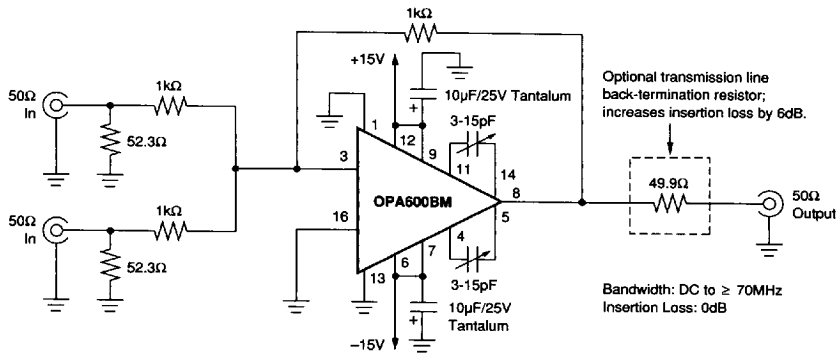
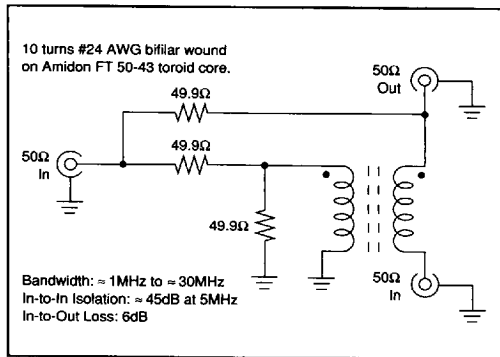

FIGURE 5. Active Signal Combiner.
FIGURE 6. Passive Signal Combiner.
7. Two-tone testing will require isolation between test signal generators to prevent IMD generation in the test generator output circuits. An active summing amplifier using an OPA600 is shown in Figure 5. This circuit will provide excellent performance from DC to 5MHz with harmonic and intermodulation distortion products typically better than -70dBC. A passive (hybrid transformer) signal combiner can also be used (Figure 6) over a range of about 0.1MHz to 30MHz. This combiner's port-to-port isolation will be ≈45dB between signal generators and its input-output insertion loss will be ≈6dB. Distortion will be better than -85dBC for the powdered-iron core specified.